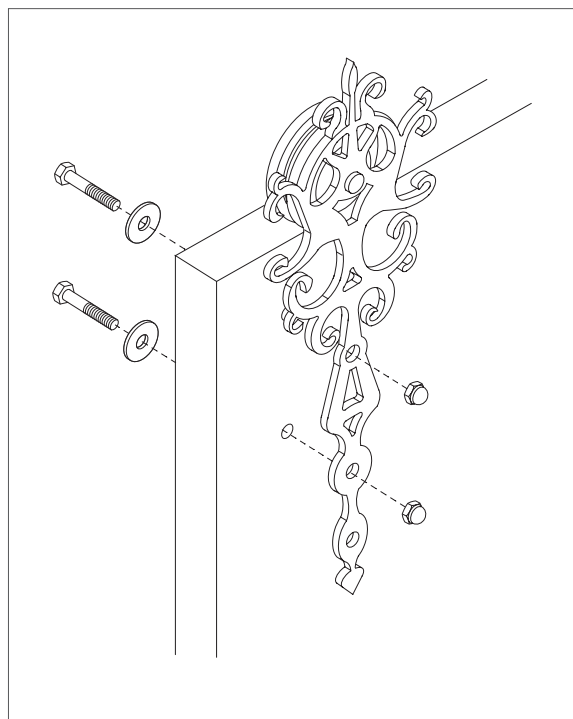

Figure 6
9. Install the hangers to the front of the door using lag bolts, washers, and acorn nuts (provided). (Figure 6).